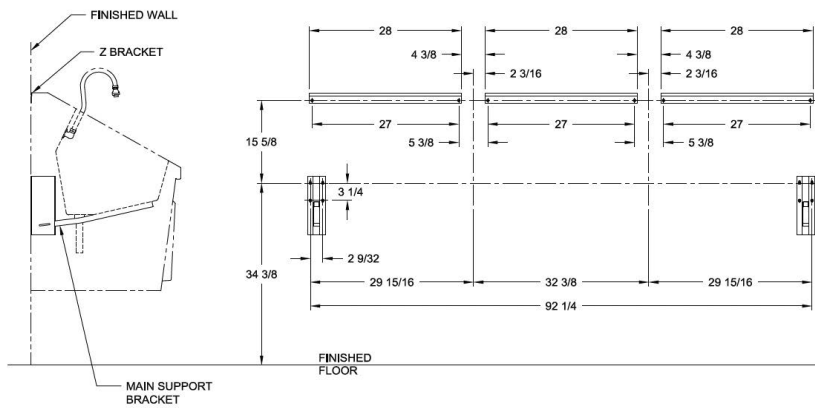
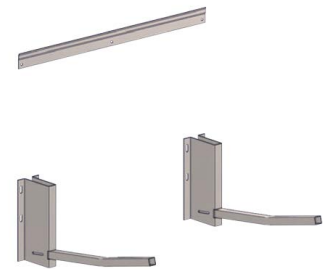

Figure 19: Z bracket mount locations
Figure 5: Z brackets
- a. Z brackets for mounting the sink to the wall come with the sink (Figure 5). Recommended mounting specifications for Z brackets are shown in Figure 13 (single bay), Figure 16 (double bay), and Figure 19 (triple bay) on pages 8, 10 and 12.